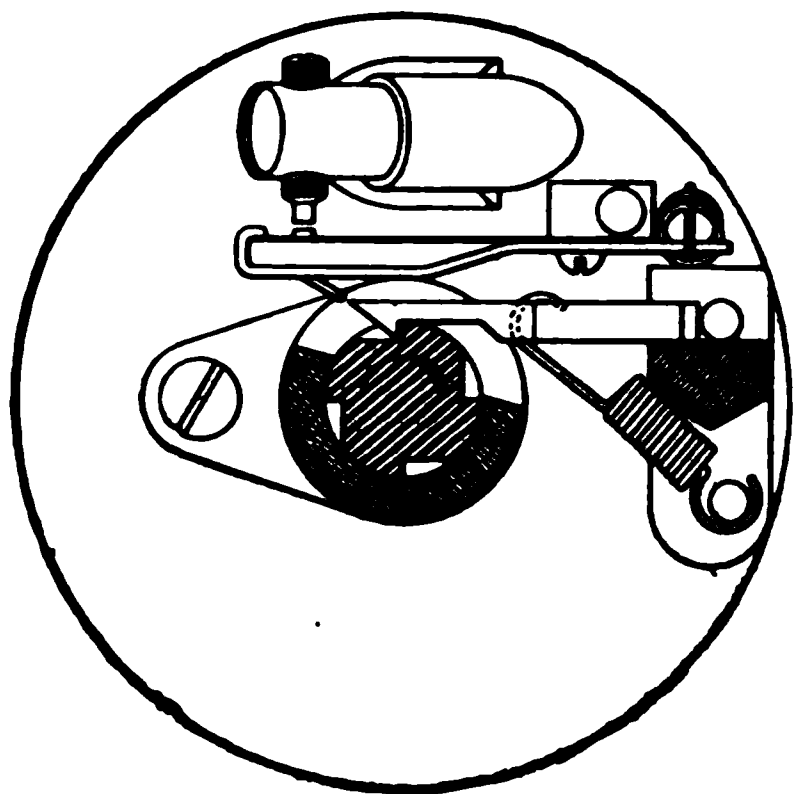

Fig. 44. Atwater-Kent Interrupter
*Atwater - Kent Interrupter.* The difficulties with roller contact led to the adoption of a totally different principle embodied in the Atwater-Kent interrupter, Fig. 44. This affords an exceedingly brief contact with an abruptness of the making and breaking of the circuit that is not secured with any other device.